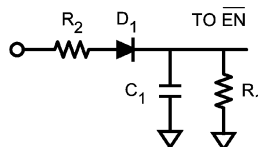
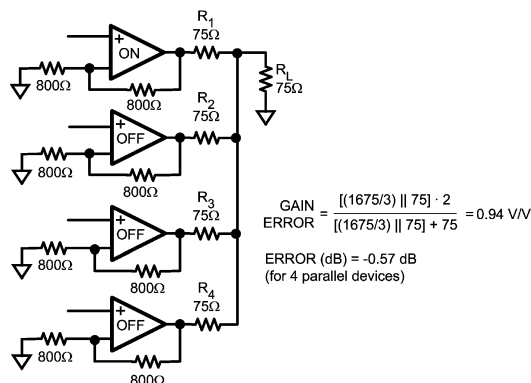

Figure 21. Delay Circuit Implementation
Figure 22. Multiplexer Input Expansion by Combining Outputs
If it is important in the end application to make sure that no two inputs are presented to the output at the same time, an optional delay block can be added prior to the ENABLE(EN) pin of each device, as shown. Figure 21 shows one possible approach to this delay circuit. The delay circuit shown will delay ENABLE's H to L transitions ( $R_1$  and  $C_1$  decay) but will not delay its L to H transition.
With the ENABLE pin putting the output stage into a high impedance state, several LMH6572's can be tied together to form a larger input MUX. However, there is a slight loading effect on the active output caused by the off-channel feedback and gain set resistors, as shown in Figure 21. Figure 22 is assuming there are four LMH6572 devices tied together to form a triple 8:1 MUX. With the internal resistors valued at approximately 800Ω, the gain error is about -0.57 dB, or about -6%.